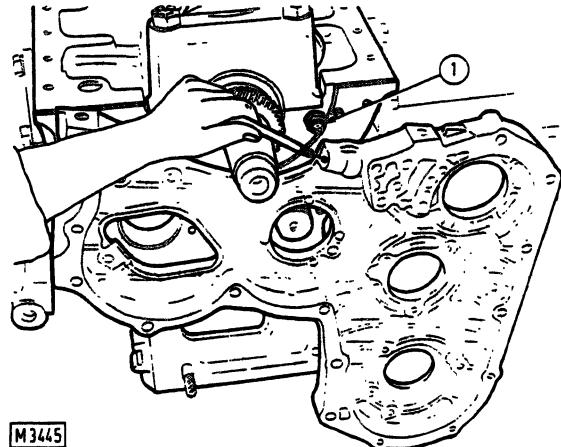
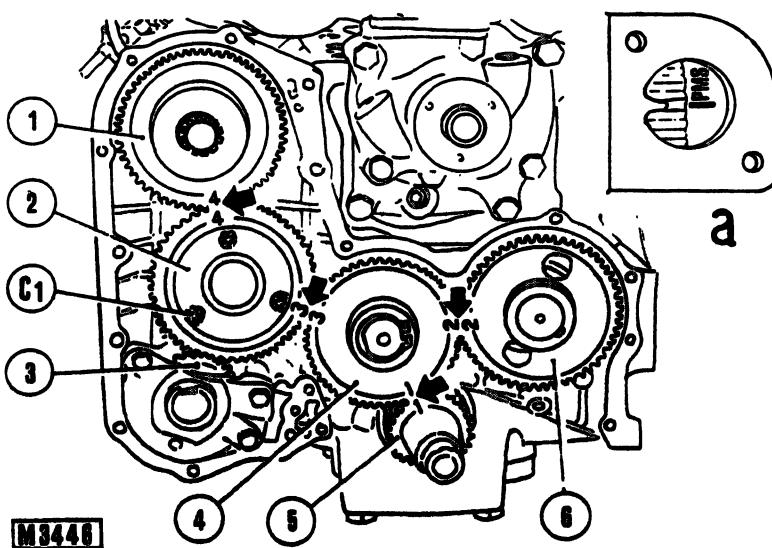
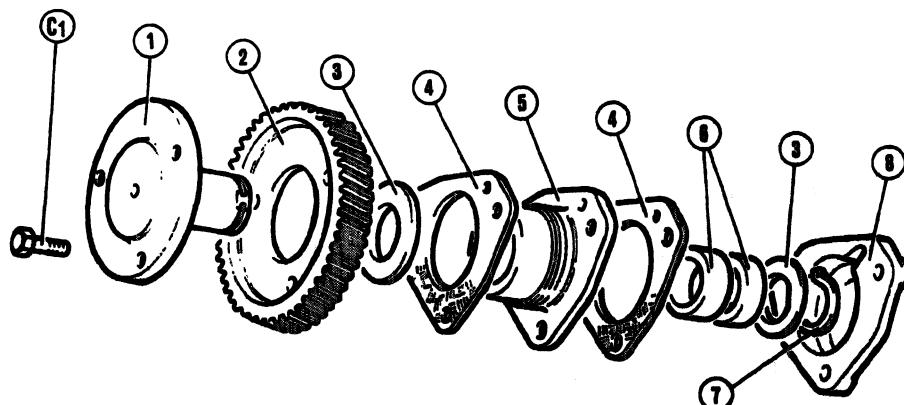

Fig. 15 - Cleaning the timing housing lubrication orifice.
Fig. 16 - Timing gear alignment.
Fig. 22 - Exploded view of injection pump idler gear.
The timing gears are contained in a special housing (Fig. 16). Lubrication is by means of a gallery in the housing which, in case of overhaul, should be checked and cleaned with a wire, as shown in Fig. 15.
- for camshaft drive gear (6, Fig. 16) follow instructions in section 3.1.2.
- For idler gear (4, Fig. 16) first remove circlip and relevant washer.
- for injection pump idler gear (2, Fig. 16) remove complete unit by removing cover (6, Fig. 22) and circlip (7), then remove screws (C1). Check backlash to be  $0.050 \div 0.100$  mm ( $0.0019 \div 0.0039$  in). Max. backlash due to wear should be 0.15 mm (0.0059 in).
### 3.1.7 TIMING GEAR ALIGNMENT (Fig. 16)